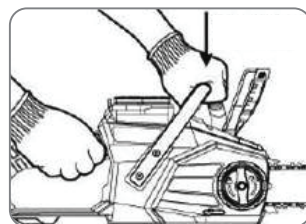

Fig. 3
- The fingers should encircle the handle, with the thumb wrapped under the front handle (see fig. 3).